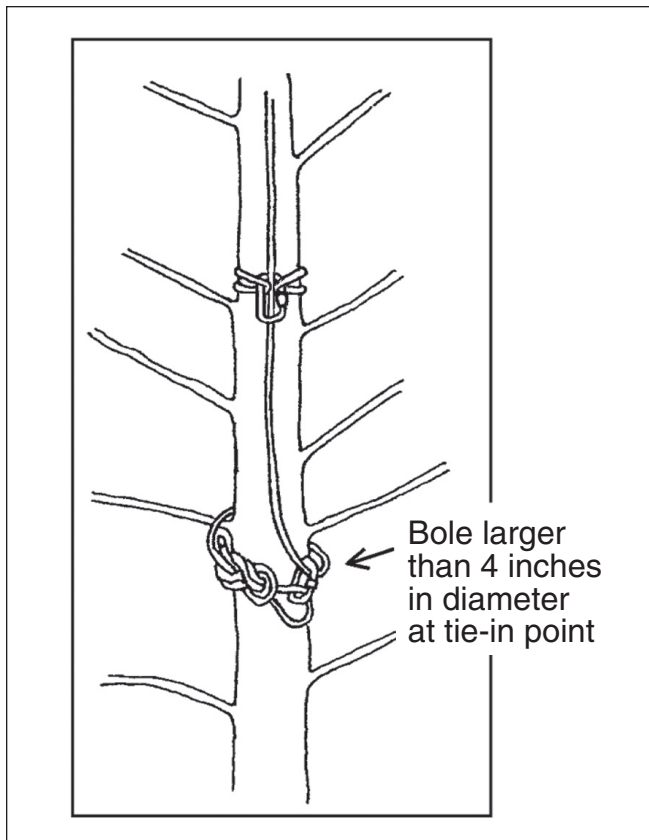

Figure 4c—Four-inch tie-in anchor system.
A 4-inch tie-in system is a belayed safety line system that is required when climbing and working above the 4-inch bole diameter level of the tree and may be either self-belayed or ground belayed (figure 4c). The belay systems allow the climber to work above the 4-inch bole diameter level in relative safety. Both self-belay and ground-belay rigging equipment is relatively inexpensive and easily replaced when worn or damaged, but the equipment may be time consuming to set up and take down. The self-belay system does not have to be operated by a ground person, freeing the ground person to assist the climber in other ways. Both belay systems can hinder the climbers' ability to descend quickly in an emergency.
1. The systems shall be secured to the tree bole at or below the 4-inch-bole-diameter level of the tree (figure 4c)